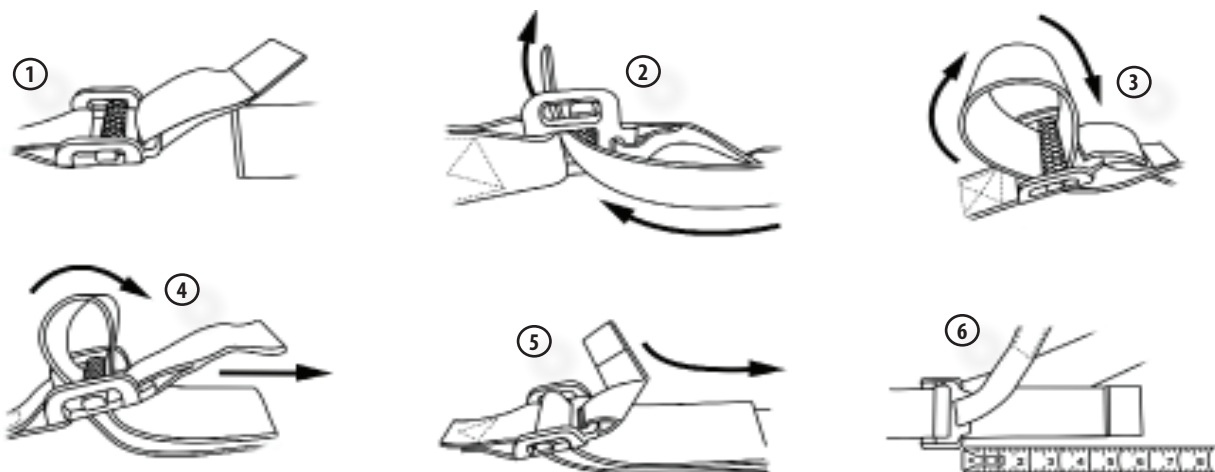

Figure 11
STEP 2: Secure the tree belt by inserting the tag (free-end) end through the slot in the buckle closest to opposite end of the tree belt, then cross over the sliding mechanism and back down through opposite slot. Pull on tree belt to secure and test to make sure sliding mechanism engages, creating secure tree belt placement. Refer to Figure 11 for proper tree belt buckle threading. YOU MUST thread the tree belt buckle as shown in Figure 11. Failure to do so may result in failure of the tree belt.
WARNING! YOU MUST thread the tree belt buckle as shown in Figure 11. Failure to thread the buckle as shown will result in the belt failing to hold and separation from the tree trunk. Failure to follow these instructions may result in serious injury or death!